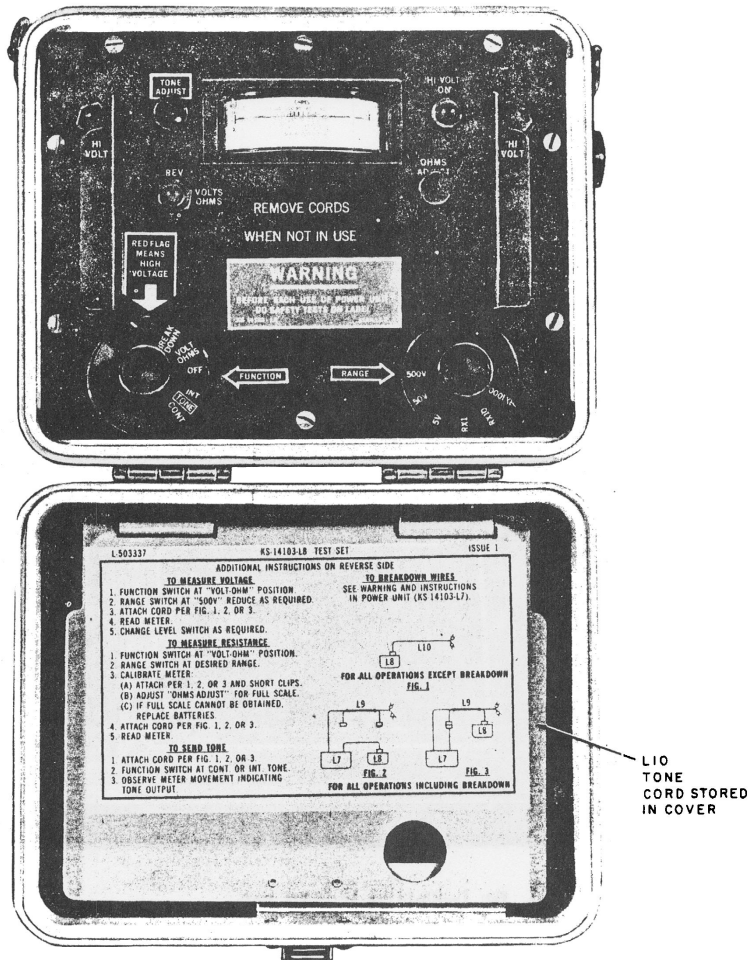

Fig. 2—KS-14103 L8 Control Unit
**3.02** The L8 control unit (Fig. 2) is 11-1/4 inches long, 9 inches wide, 6-5/8 inches high and weighs 9-3/4 pounds complete with batteries and removable lid which also provides storage space for the L10 tone cord. One KS-14368 (1-1/2 volt) battery, one KS-14369 (45 volt) battery one KS-14196 (45 volt) battery are required for power and must